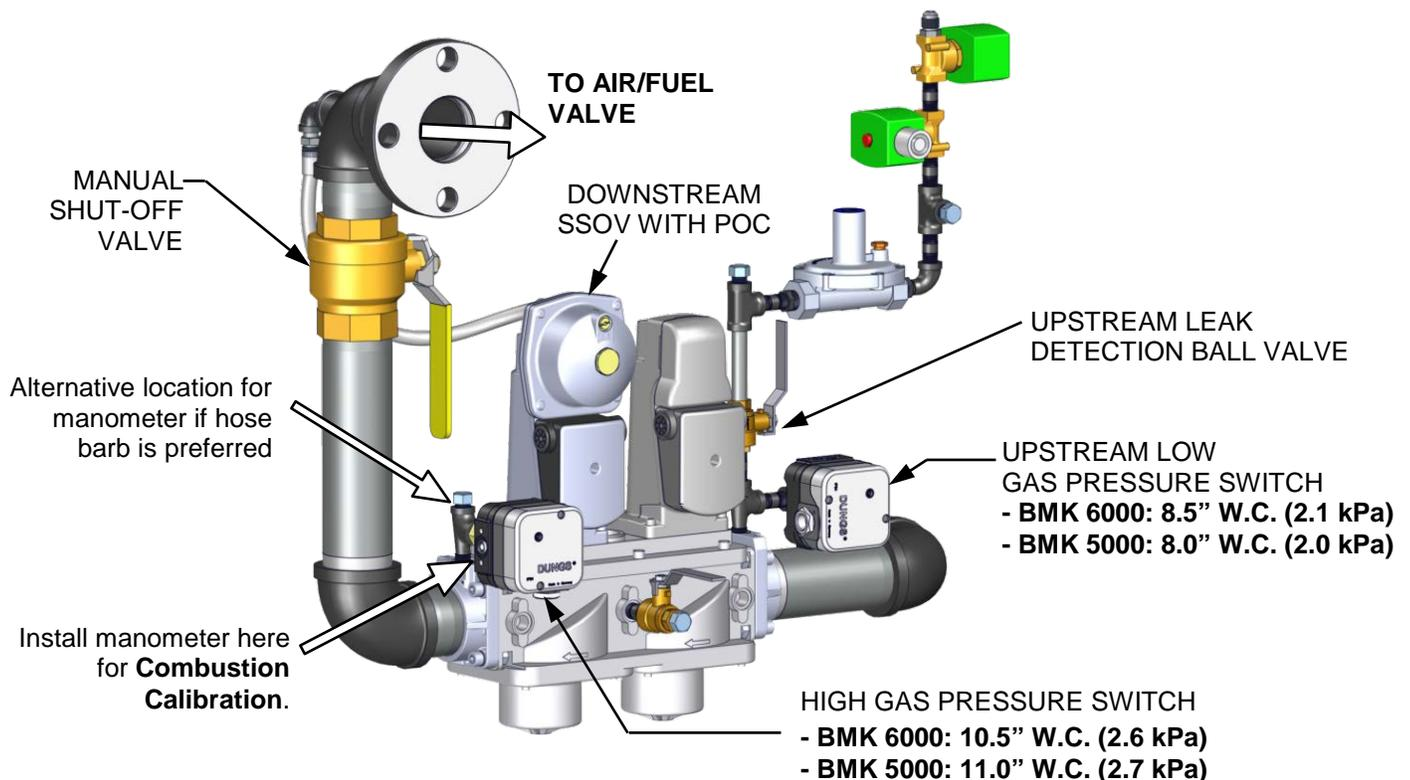

Figure 4-1: Port Location for Combustion Calibration
The gas supply manometer is installed at the upstream and/or downstream location shown in Figure 4-1.
The gas supply manometer is installed at the downstream location shown in Figure 4-1.
3. To monitor the gas pressure on the downstream side of the SSOV during Combustion Calibration (section 4.5, below), locate the port on the side of the High Gas Pressure switch, as shown in Figure 4-1, and loosen the screw inside a few turns to open it. Do not remove this screw completely. Alternatively, you can remove the 1/4 inch plug shown in Figure 4-1, above, and install a hose barb fitting in that location.
The Pilot Burner should be inspected at the beginning of each heating season, or every 6 months for continuous operation. It is constructed of high quality, heat resistant stainless steel, however some darkening of the metal is expected. No adjustment of the Pilot should be required, however the gas pressure downstream of the regulator should be checked if an ignition issue is encountered. Refer to Figure 4-1 for test port location.